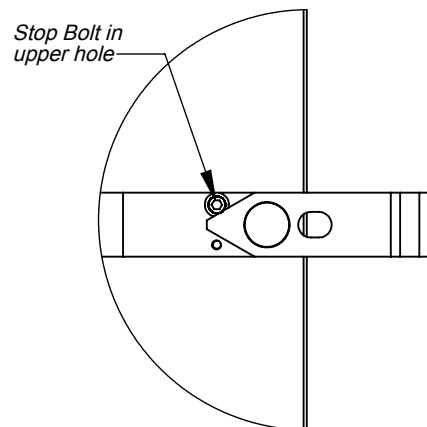

FIGURE 4
**Step 6** The small stop bolt and washers on the "gate stop" side handle should be located in the upper hole, if not simply remove and replace in the upper hole. (see figure 4)